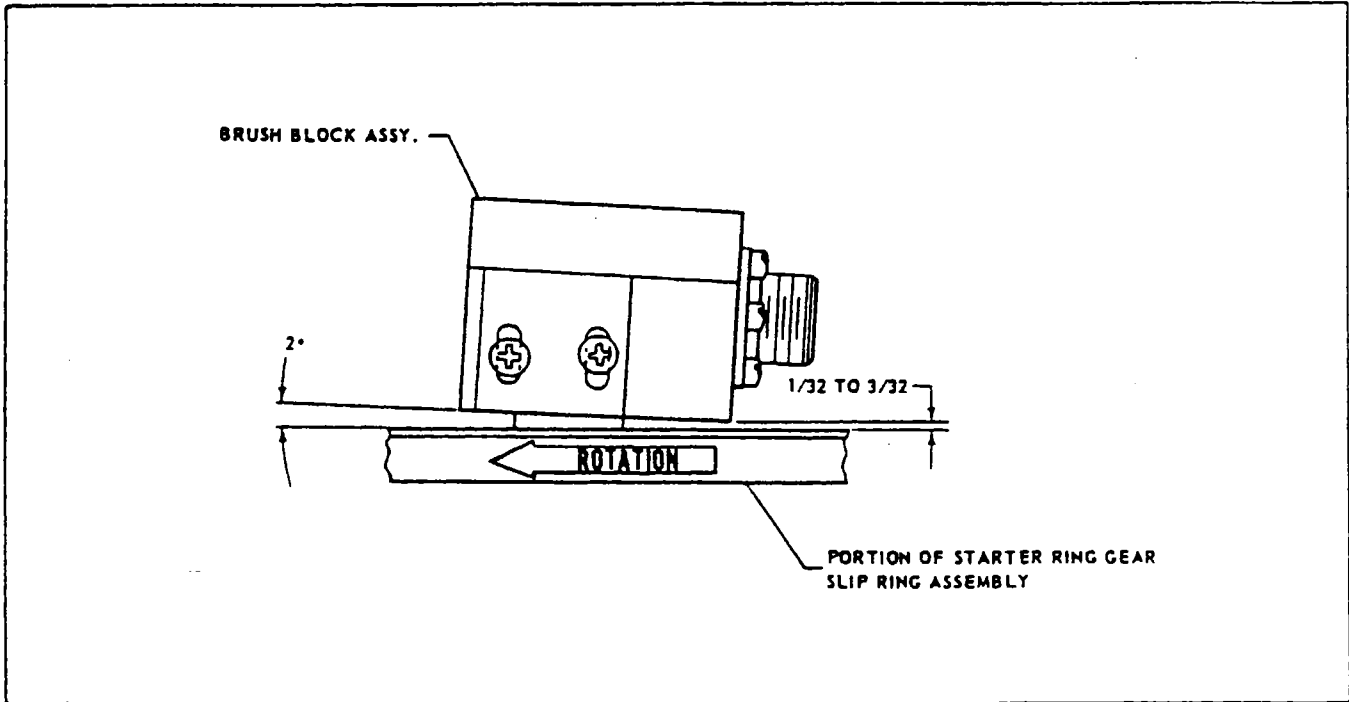

Figure 14-10d. Angle of Contact Brushes to Slip Rings
2. Check for proper clearance of brush block to slip rings as shown in Figure 14-10d. If not correct, loosen mounting screws and move in elongated holes to correct block position before tightening securely.
3. Visually check brush block for approximately 2° angle of attack. (Refer to Figure 14-10d.) If not, loosen mounting screws and twist block, but be sure to hold clearance limits shown when tightening.